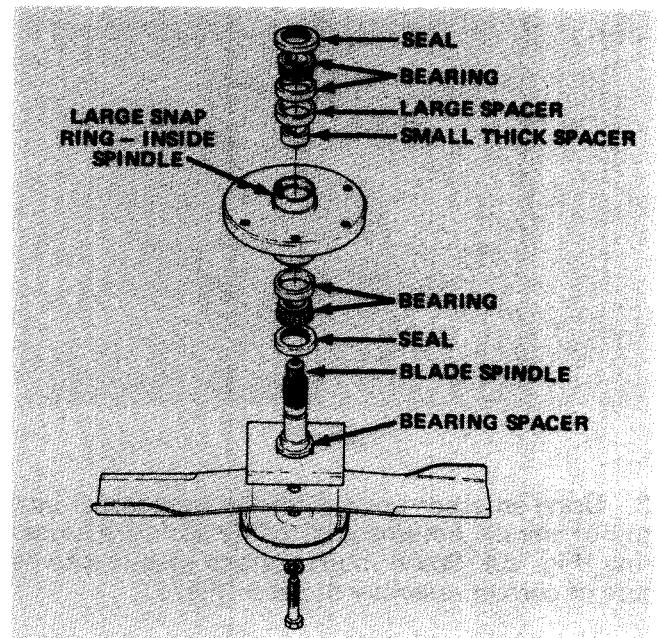
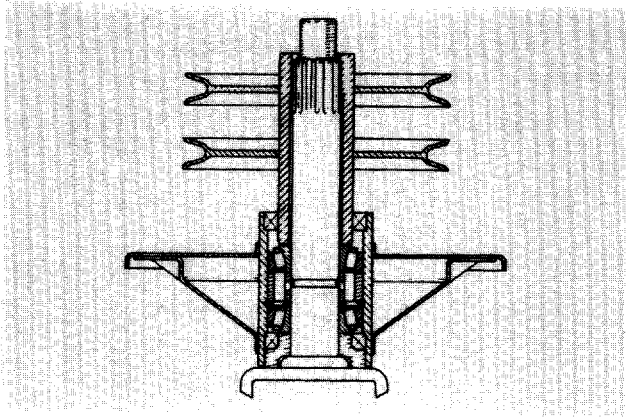
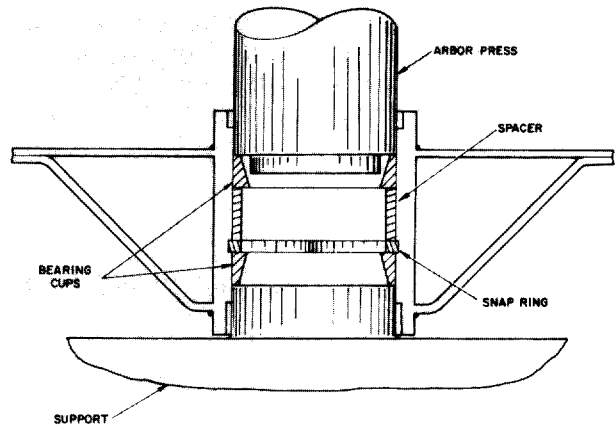

Figure 20
Figure 21
Figure 22
5. If spindle shaft will be replaced, remove blade-bolt, lockwasher, anti-scalp cup, and blade from spindle shaft (Fig. 20). Otherwise, the blade and its other associated parts may be left on the spindle shaft.
6. Press spindle shaft out of spindle housing (Fig. 20), using an arbor press. Bearing spacer (Fig. 20) remains on spindle shaft as shaft is being removed.
7. The seals (Fig. 20) will be removed next; however, notice the lip of the seal. The lip of the upper seal faces inward, and the lip of the lower seal faces outward. Therefore, new seals must always be installed with the lip facing in the proper direction. Now remove the seals from spindle housing.
8. Allow bearings and small thick spacer to fall out of spindle housing (Fig. 21).
9. Using a punch and hammer, drive both bearing cups (Fig. 20) out of spindle housing. Also drive large spacer (Fig. 20) out of housing.
1. Install large snap ring into groove in bore of spindle housing (Fig. 21). Assure snap ring is seated in the groove.
2. Using an arbor press, push the large spacer into top of spindle housing and tightly against the snap ring (Fig. 20). Spacer must contact snap ring to be sure of correct assembly of parts (Fig. 21).
3. Thoroughly oil cups and using an arbor press, push bearing cups — smallest ID first — into top and bottom of spindle housing (Fig. 20). Top bearing cup must contact spacer that was installed in step 2, and bottom bearing cup must contact snap ring to be sure of correct assembly of parts (Fig. 21). Insure assembly is correct by supporting the first cup and pressing the second against it (Fig. 22).
4. Apply a film of grease on lip of both seals; then install bearing and seal into bottom of spindle housing (Fig. 21). Remember though, the bottom seal must have the lip facing outward (Fig. 20) not toward inside of spindle housing.
5. Slide small, thick spacer into spindle housing (Fig. 20). Then, install bearing and seal into top of spindle housing. Lip of the seal must face inward.
7. Slide bearing spacer onto spindle shaft. Carefully slide spindle shaft through spindle housing. Bottom seal and bearing spacer fit together when spindle is installed (Fig. 21).